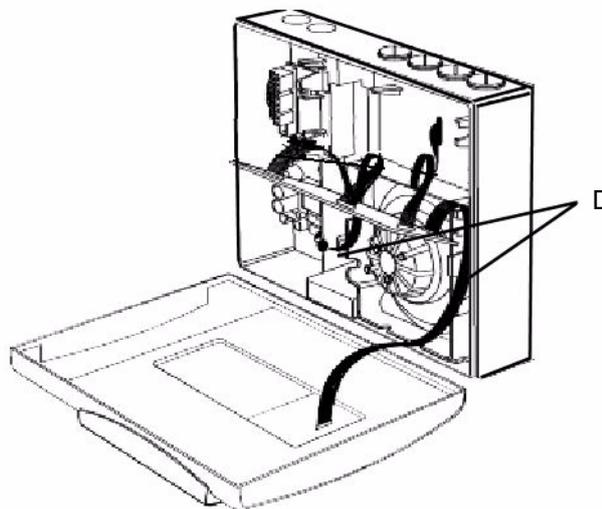

Figure 5: Removing data cables for VLP or VLS chassis replacement
5. Disconnect the data cables that connect the chassis assembly to the termination card. These include the front panel modules (if fitted) and manifold (behind chassis). Refer to Figure 5, "Removing data cables for VLP or VLS chassis replacement," on page 15.
6. Unscrew the 2 recessed retaining screws (D) in the Figure 5 above.